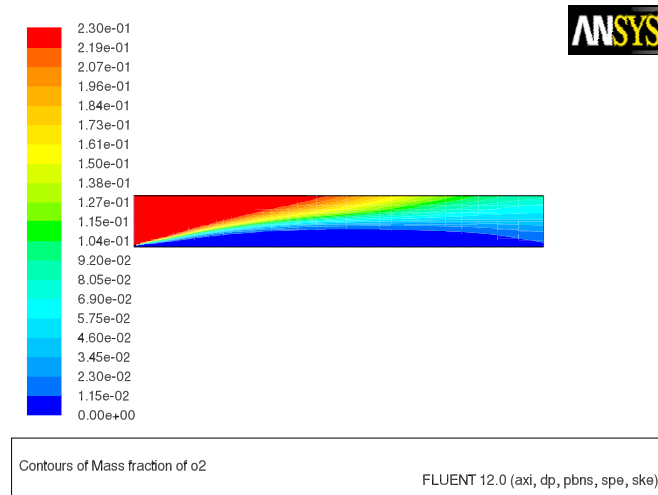

Figure 14.9: Contours of O_2 Mass Fraction
7. In a similar manner, display the contours of mass fraction for the remaining species O_2 , CO_2 , and H_2O (Figures 14.9, 14.10, and 14.11). Close the Contours dialog box when all of the species have been displayed.